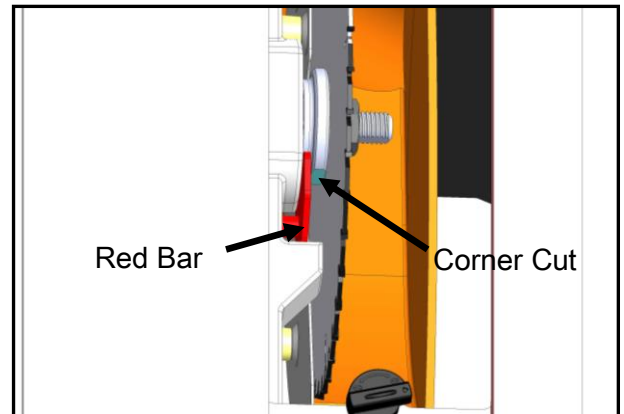
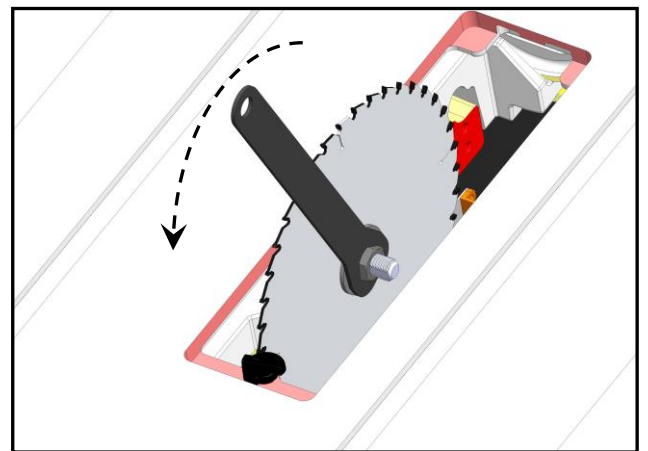

Fig. 9
Fig. 10
In Fig. 9
3. Find a corner cut Fig. 9 on the arbor, push the red bar Fig. 9 into the corner cut as close to saw blade for stop the arbor and use the arbor wrench to loosen and remove the arbor nut, flange, and blade (Fig. 10).